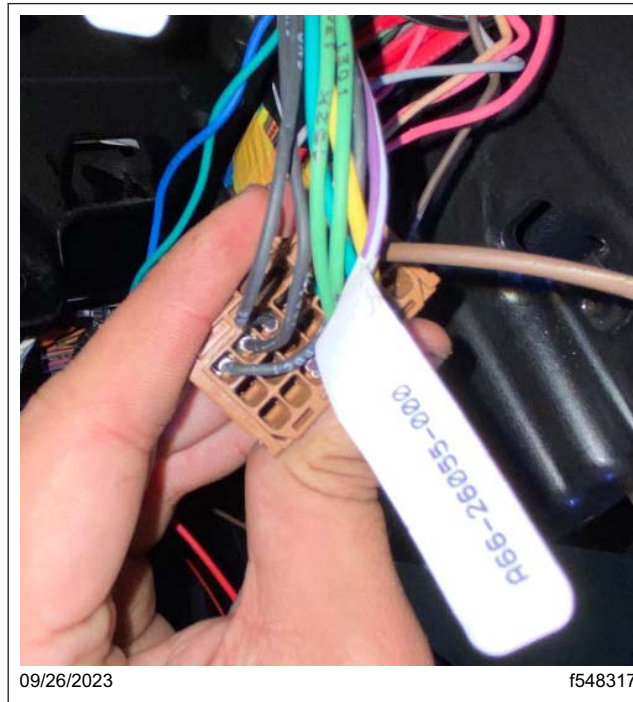

Fig. 48, Engaging the Lock on the XMC2 X3 Connector
- 17.4 Squeeze the top and bottom of the XMC2 X3 connector to lock it. Reconnect the X3 connector to XMC2. See Fig. 48.